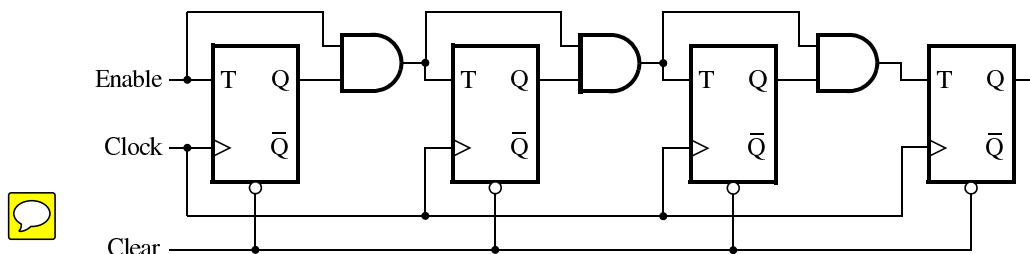

Figure 1: A 4-bit counter.
Consider the circuit in Figure 1. It is a 4-bit synchronous counter that uses four T-type flip-flops. The counter increments its value on each positive edge of the clock if the *Enable* signal is asserted. The counter is reset to 0 by setting the *Clearb* signal low – it is an active-low asynchronous clear. You are to implement an 8-bit counter of this type.
1. Write a Verilog file that defines an 8-bit counter by using the structure depicted in Figure 1. Your code should include a T flip-flop module that is instantiated 8 times to create the counter (i.e. structural Verilog). Compile the circuit. How many logic elements (LEs) are used to implement your circuit? What is the maximum frequency,  $F_{max}$ , at which your circuit can be operated? (Use TimeQuest in Quartus to determine the maximum frequency  $F_{max}$  – Refer to Using TimeQuest Timing Analyzer document found on the Altera website.)
- Use the Quartus II RTL Viewer to see how the Quartus II software synthesized your circuit. What are the differences in comparison with Figure 1?